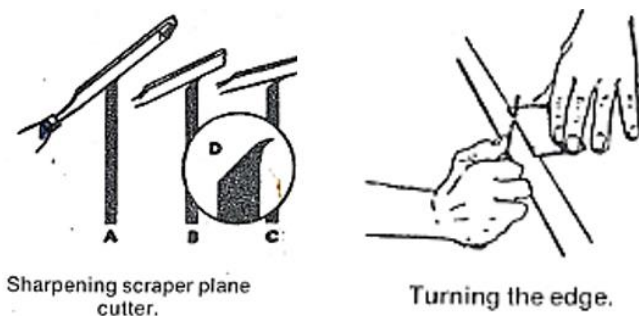

Fig. 8.2: Sharpening of a scraper
Hold the scraper in the vice, and rub edges down with a flat file until square and sharp. Finish off on the oilstone. Afterwards rub each side flat on the stone. The edges have now to be turned. Place scraper flat on bench, its edge standing in a short way from the edges, and hold down with the fingers. Moisten the ticketer or gouge in the mouth and draw it along flat on the scraper once or twice in each direction, as in Fig. 8.2. If the gouge is used, make sure that it clears the fingers of the left hand.
Now hold the scraper so that it overhangs the edge of the bench about  $\sin$ . Holding the ticketer at a slight angle, draw it along the edge once in each direction with firm pressure. Treat all four edges alike. The angle at which the ticketer is held is about  $80^\circ$ . As the edges become dulled they can be restored two or three times by flattening, as in Fig. 8.2, and turning back afresh. When this ceases to be effective it is necessary to file and hone afresh.
There are no separate grinding and honing angles. For bowl turning this should be not less than 45 deg., and edge should be straight, as at (D), Fig. 8.2. For work between centres, angle can be less and a nose given to the tool (B).